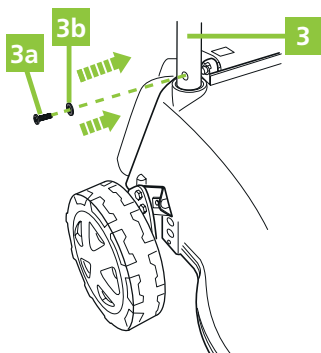

Figure 3
3. Secure the lower links (3) with the screws (3a) and washers (3b). Then tighten the screws (3a) with a Phillips screwdriver (Fig. 3).